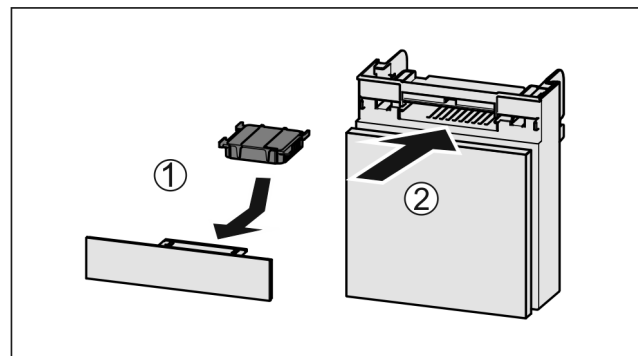

Fig. 146
- Insert the carbon filter as shown in the diagram Fig. 146 (1).
- Push the compartment in Fig. 146 (2).